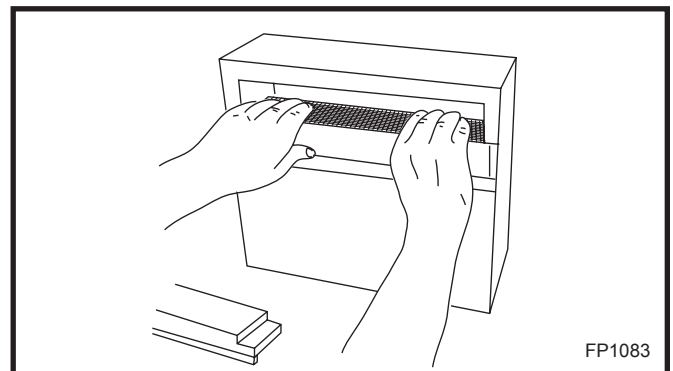

Fig. 16 Removing the catalytic element.
6. Slide the catalytic element out. (Fig. 16) Handle it carefully, as the element is fragile.